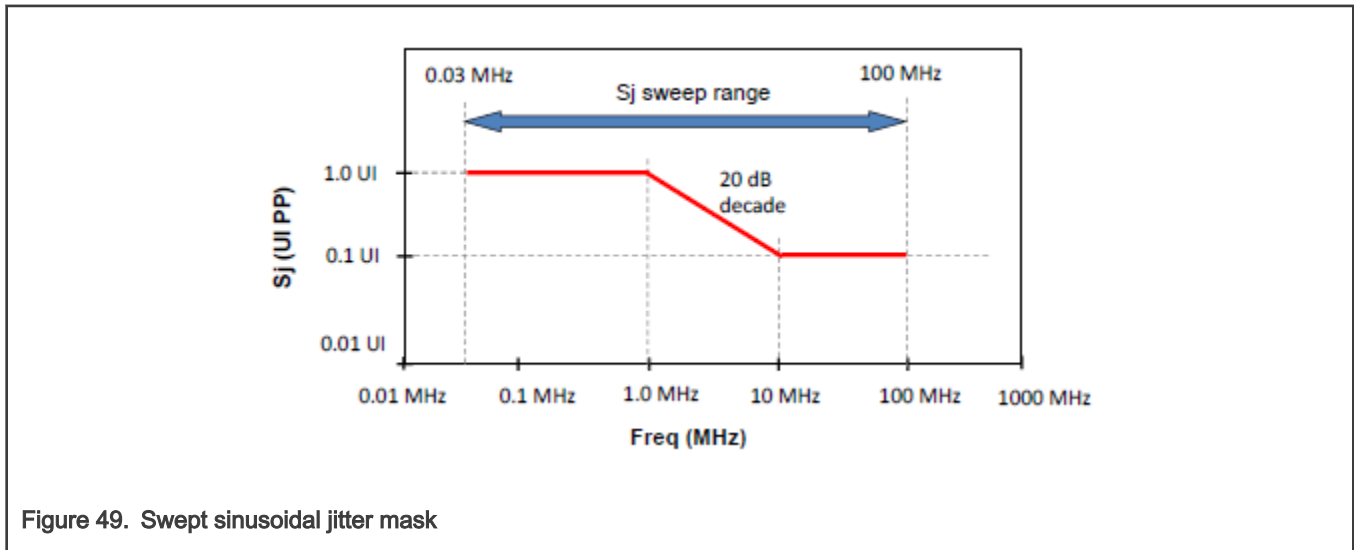

Figure 49. Swept sinusoidal jitter mask
1. Each UI is 125 ps ± 300 ppm. UI does not account for spreadspectrum clock dictated variations. 2. T RX-SV is referenced to TP2P and is obtained after post-processing data is captured at TP2. T RX-SV includes the effects of applying the behavioral receiver model and receiver behavioral equalization. 3. Frequency = 2.1GHz. V RX-SV-DIFF-8G voltage may need to be adjusted over a wide range for the different loss calibration channels. 4. Fixed at 100 MHz. The sinusoidal jitter in the total jitter tolerance may have any amplitude and frequency. 5. See <a href="#">Figure 49</a> . 6. Random jitter spectrally flat before filtering. Random jitter (Rj) is applied over the following range: The low frequency limit may be between 1.5 and 10 MHz, and the upper limit is 1.0 GHz. Rj may be adjusted to meet the 0.3 UI value for T RX-SV-8G .